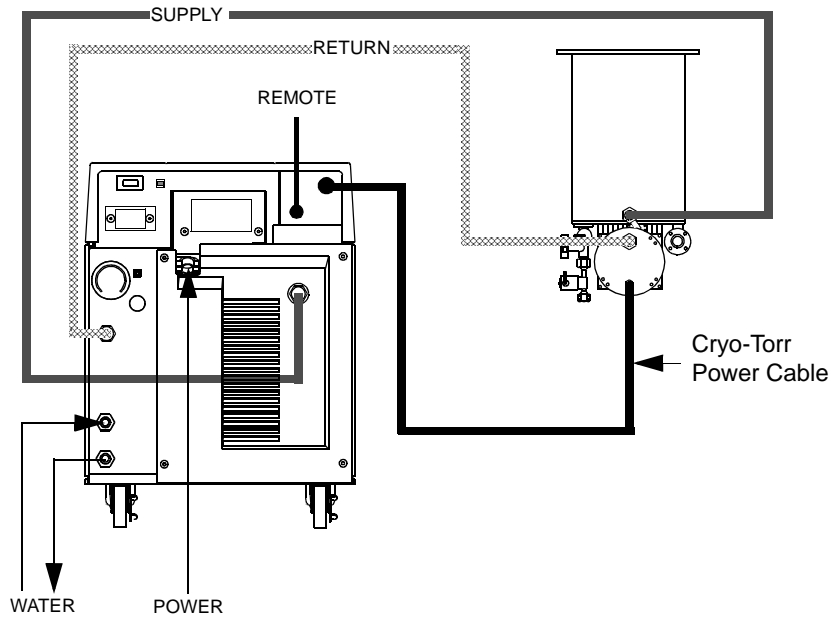

Figure 3-5: Single Cryo-Torr Cryopump Installation
2. Connect one end of the Cryopump cold head cable to the CRYOPUMP ELECTRICAL OUTLET on the rear panel of the Compressor as shown in Figure 3-5. Connect the opposite end of the cold head cable to the cryopump cold head cable connector as shown in Figure 3-5.